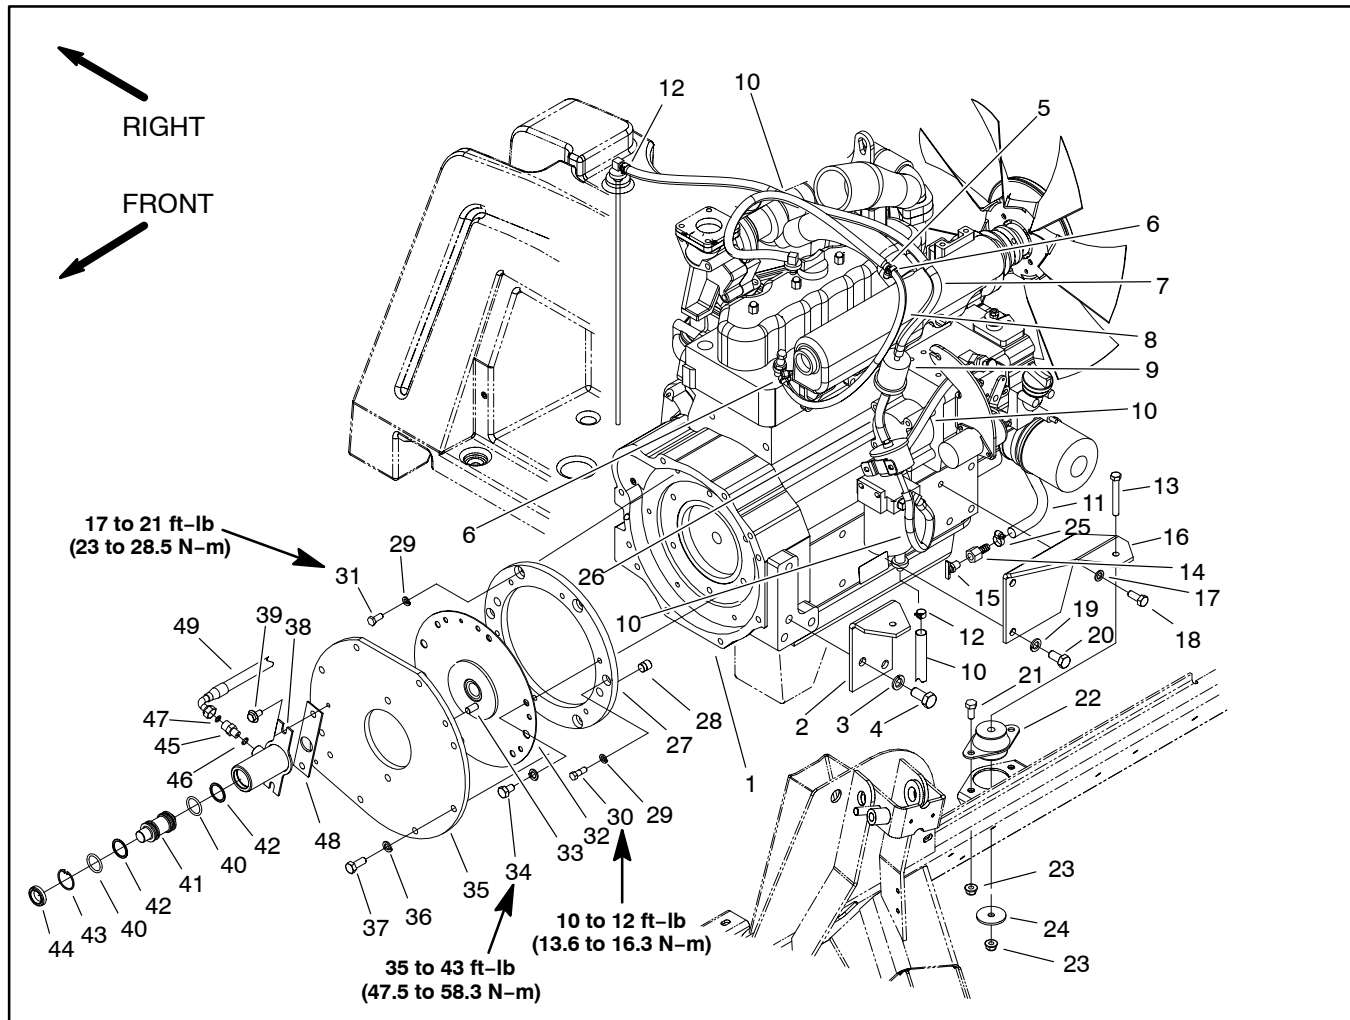

Figure 9
19. If necessary, remove engine mount brackets from the engine using Figure 9 as a guide.
1. If removed, install engine mount brackets to the engine using Figure 9 as a guide.